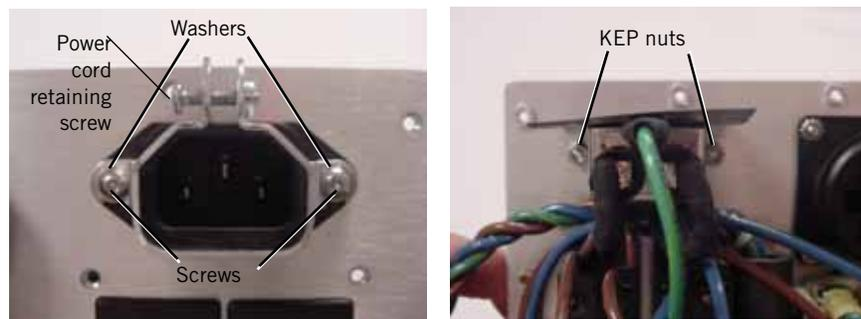

Figure 10-29: AC Cord Bracket (Outside and Inside Views)
1. Loosen the screw that retains the power cord (Figure 10-29). Disconnect the power cord.
4. Loosen the two screws that hold the power cord bracket to the AC distribution panel (Figure 10-29). Slide the bracket downward off the screws.